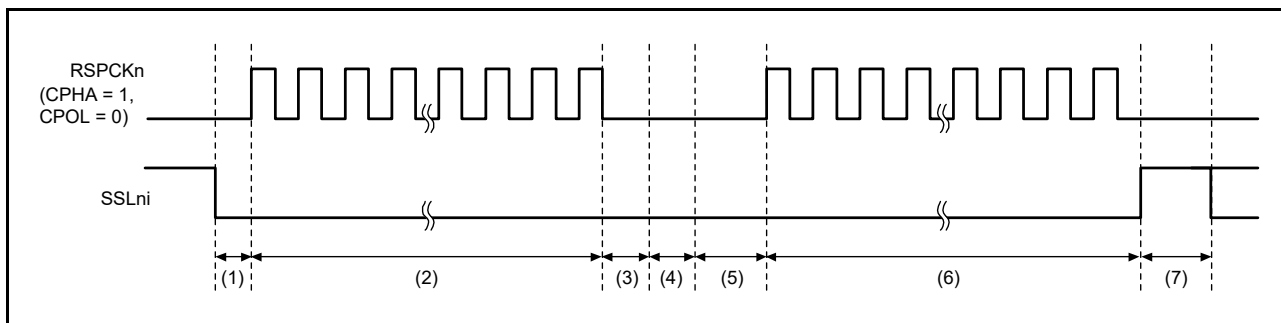

Figure 31.35 Example of burst transfer operation using the SSLKP bit
Figure 31.35 shows an example of an SSLni signal operation for a burst transfer that is implemented using the SPCMD0 and SPCMD1 register settings. This section describes SPI operations (1) to (7) shown in Figure 31.35.
The SPI operation at timings (1) to (7) in Figure 31.35 is as follows:
If the SSLni signal output settings in the SPCMDm register where 1 is assigned to the SSLKP bit are different from the SSLni signal output settings in the SPCMDm register to be used in the next transfer, the SPI switches the SSLni signal status to SSLni signal assertion as shown in (5) in Figure 31.35. This corresponds to the command for the next transfer.